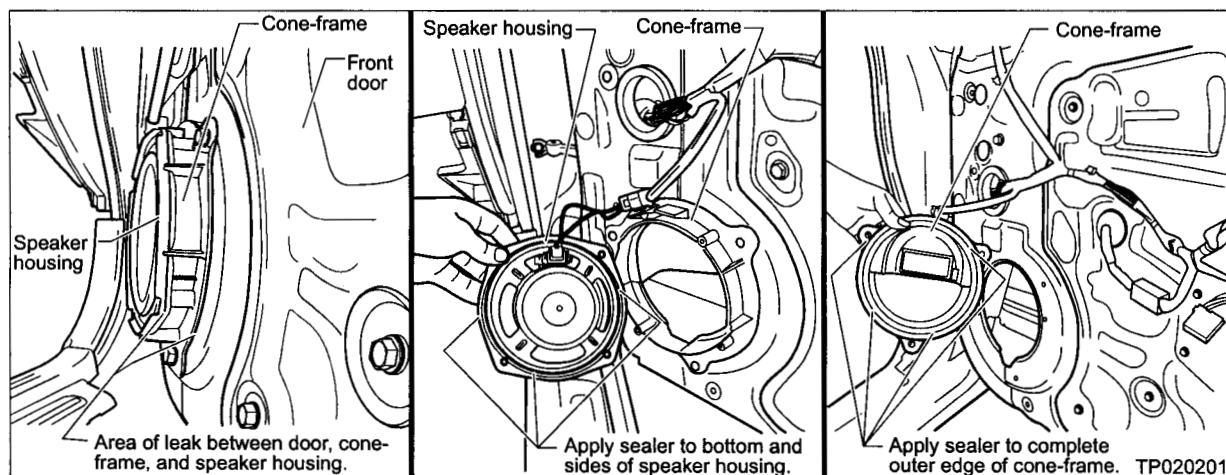

Figure 1
- d. Observe the lower area of the speaker housing and speaker cone-frame. If water is leaking from this area it should be visible within 15 minutes (see figure1).
2. Separate the speaker housing from the cone-frame and the cone-frame from the door panel (see figure 1).
3. Apply sealer (Permatex Ultra Black 598B Hi-temp RTV silicone or equivalent) to the speaker housing bottom and sides, and to the entire outer edge of the cone-frame (see figure 1).